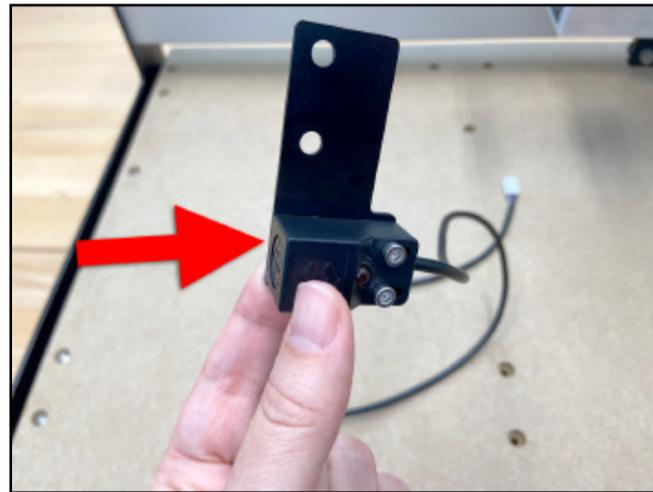

Figure 6-5
2. Align the switch and plate, with the switch facing left and the plate's two PEM nuts in the **BOTTOM-RIGHT** corner. Flush the face of the switch with the edge of the plate. See **Figure 6-5**.
3. Use the 2.5mm hex key and two (2) M3×18mm socket head cap screws to attach the switch to the plate. Make sure the front edge of the proximity switch and plate stay flush. See **Figure 6-5**.